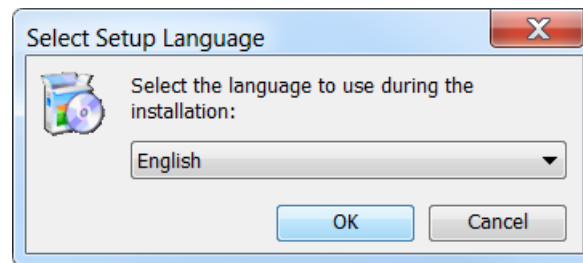

Figure 4-2. Select Language for Software
5. From the drop-down menu shown in Figure 4-2, select the language in which to display the software and click OK.